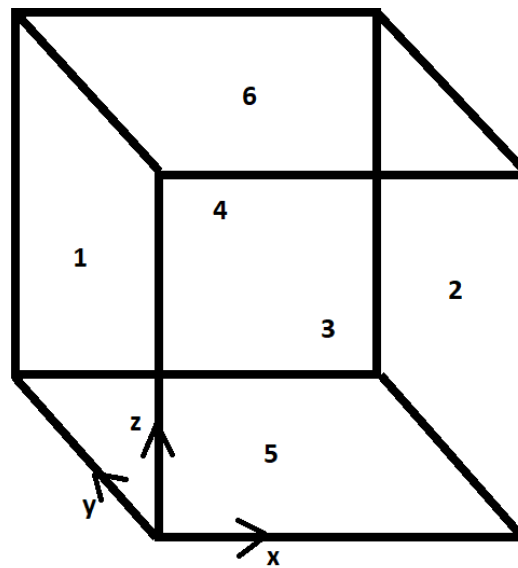

Figure 1: Description of faces required for defining BCs
**FaceID** refers to the face identifier and follows the numbering as indicated in Fig. 1. **DoF** refers to the direction of application of displacement, where 1, 2 and 3 refer to the x, y and z directions respectively. In the case of cyclic loading the displacement applied, refers to the displacement amplitude.